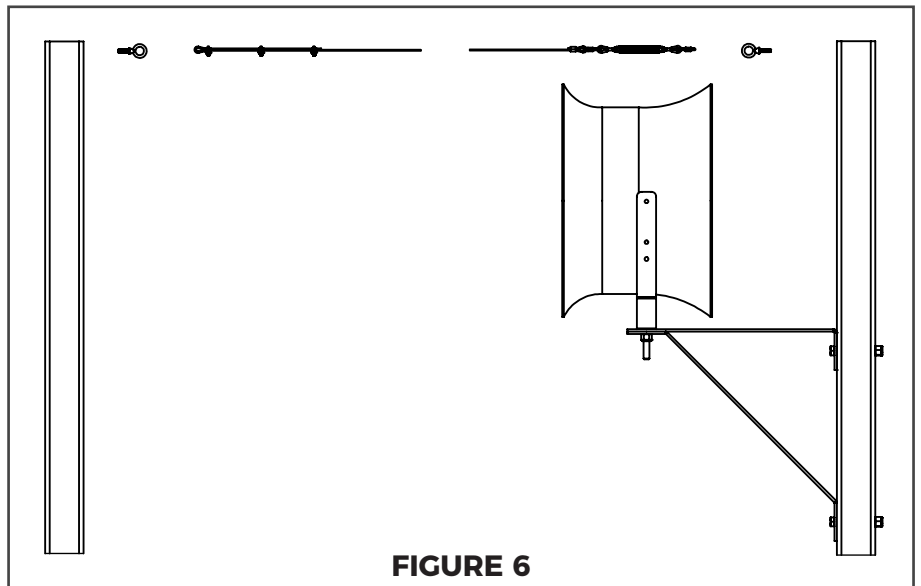

FIGURE 6
11. Torque all of the 1/2" coupling bolts to 65 ft-lbf.12. Attach the cable to the power tube poles as shown in Figure 6.